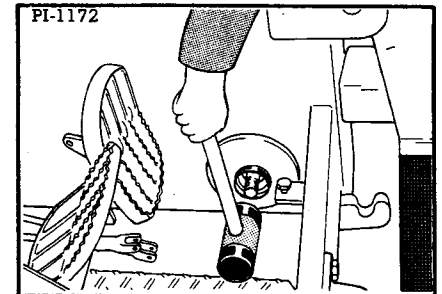
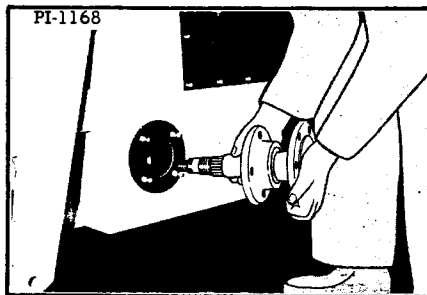

Fig. 71 Driving Axle with Mallet
Fig. 72 Removing Axle from Machine
13. Drive the axle with a plastic or rubber mallet (Figure 71) or use a slide puller at the outside of the machine. Remove the axle from the machine (Figure 72).